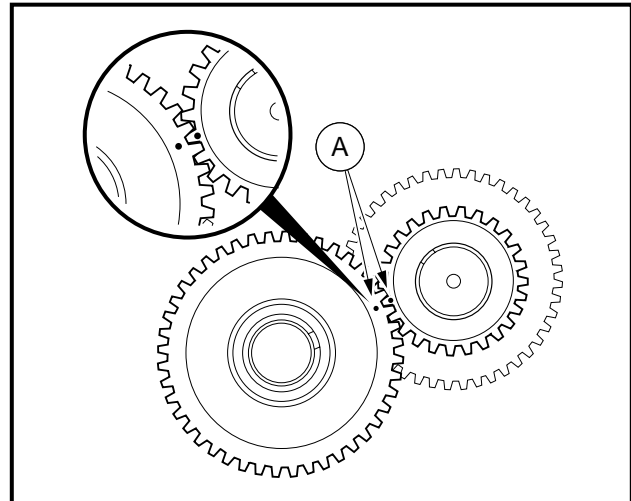

Figure 13-46 Timing Mark Alignment
1. Keep the timing marks (A) aligned during removal (**Figure 13-46, Page 13-25**).